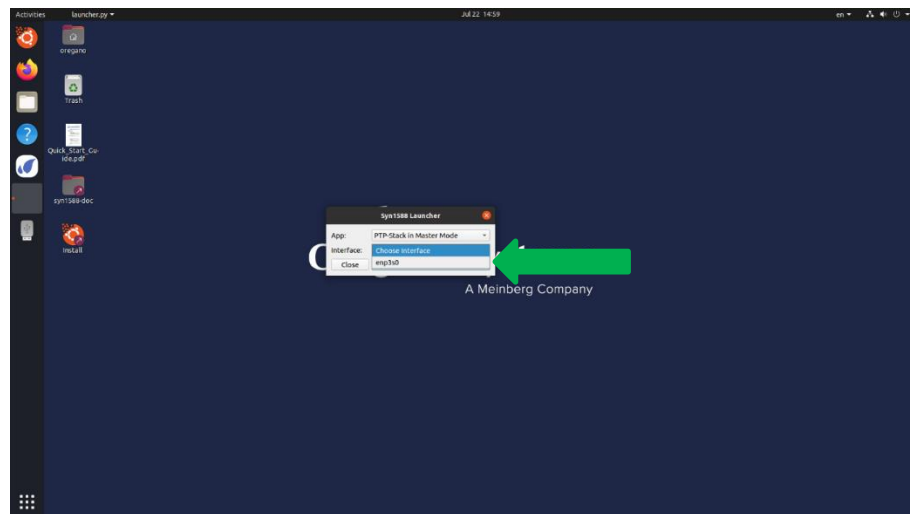

Figure 6 Select the desired interface
3. Select the desired interface to connect with the syn1588[®] PTP Stack (Figure 6)